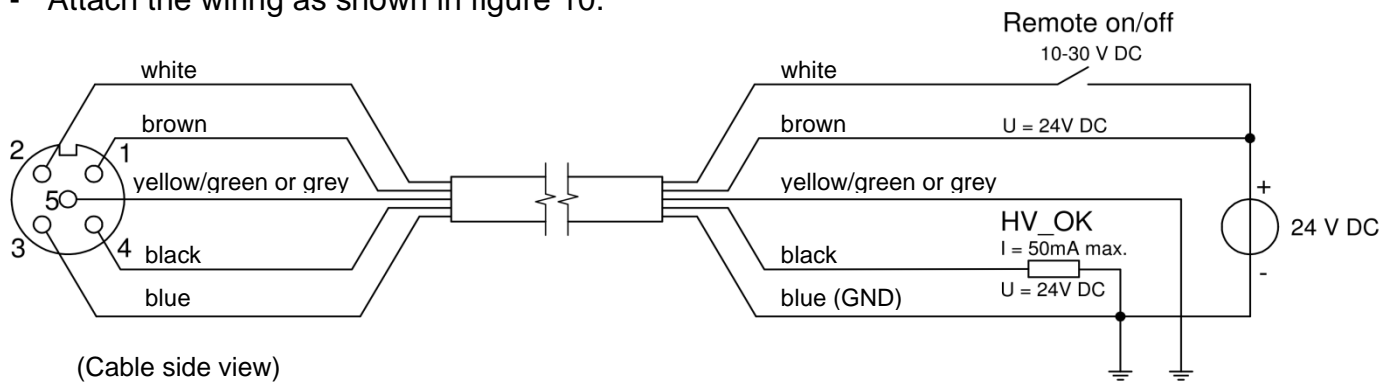

Figure 10: Wiring of the bar
- Attach the wiring as shown in figure 10.
If the anti-static bar is connected to a 24 V power supply without the manager, the bar will not have IQ functionality. The anti-static bar can however be switched on/off remotely with the pin on the M12 connector and feedback will be provided on whether the high voltage is active on the corresponding pin of the M12 connector (see figure 10).